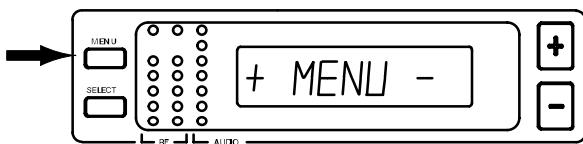

FIGURE 21
1. Press the MENU button. The “+ MENU –” display appears, as shown in Figure 21.